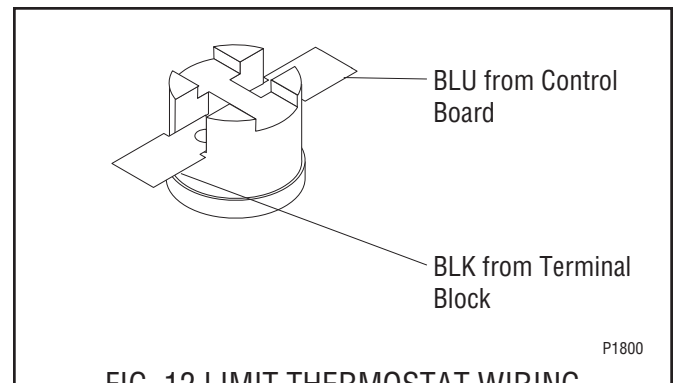

FIG. 12 LIMIT THERMOSTAT WIRING
4. Refer to FIG. 12 when reconnecting the wires.